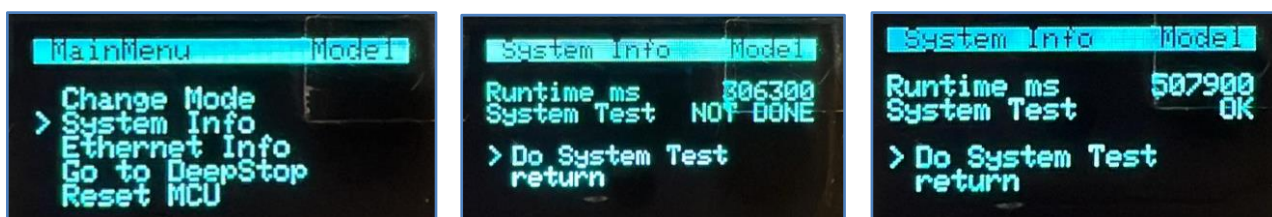

Figure 24 System Info
- Rotate the encoder CW to move the pointer to the next position or CCW to move the pointer to the previous position. So, after moving the pointer to the “System Info”, press the encoder button to enter. As can be seen, in the *Figure 24 System Info*, the System Test status is not “NOT DONE”. Upon executing the “Do System Test”, one can see the updated “System Test” status to OK. To go back to the previous menu, please use “return”.